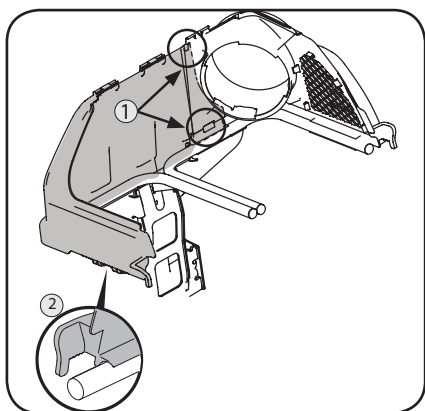

Figure 4-7
3. Slide the left side grass catcher cover (731-12350) over the upper chute support and the bag support assembly. Carefully latch the two tabs in place into the front of the upper chute support, see 1 in Figure 4-7. Fit the snaps onto the left side bagger rail support. See 2 in Figure 4-7.